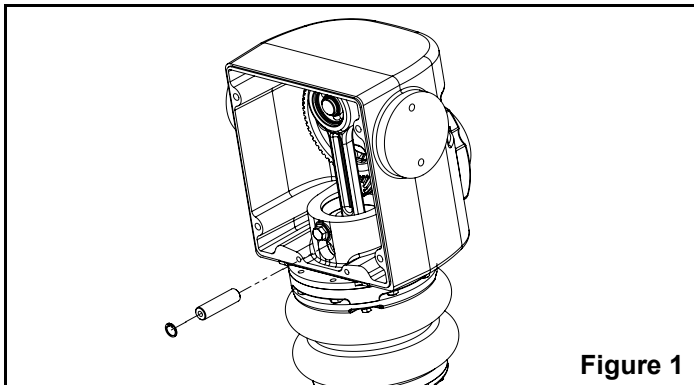

Figure 1
4. Remove the cover (2), the cover gasket (3), and the dowel pins (#1) from the gearbox.
6. Remove retaining ring (6) from piston. Thread a 5/16-18 screw into the piston connecting pin (#5) and remove the pin. See Figure 1.